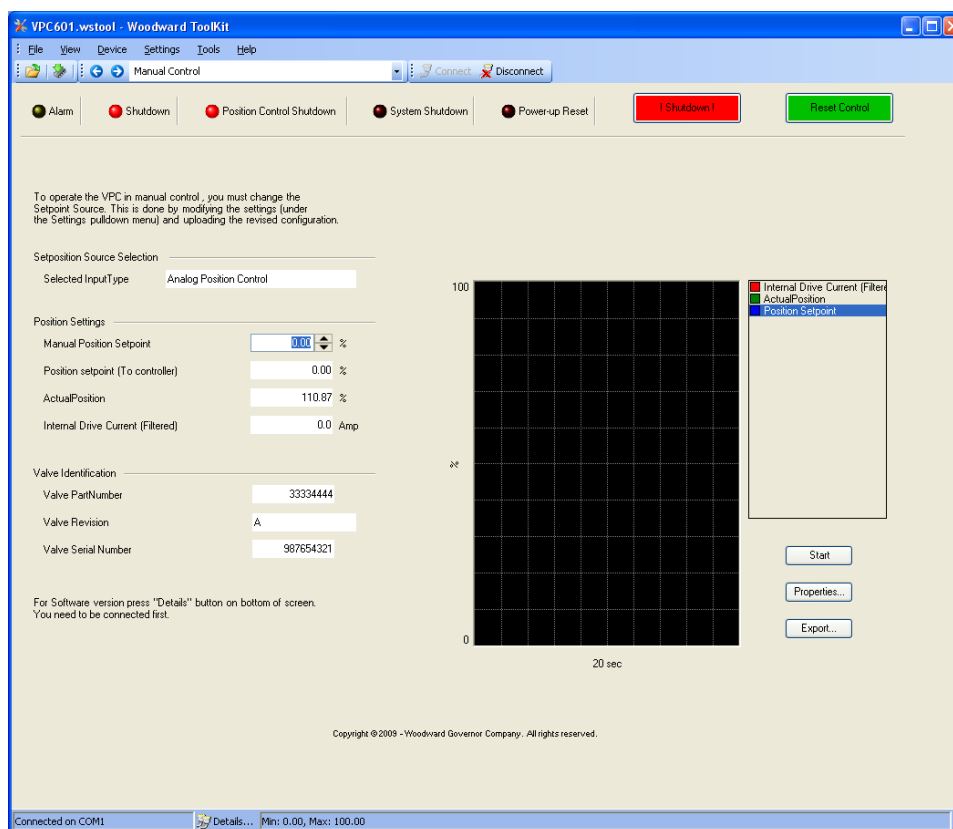

Figure 4-9. Manual Control Screen
**Manual Control** - Displays manual valve stroking mode (Figure 4-9).
The Manual Control screen is used during initial commissioning or when troubleshooting to confirm the operation of the GS16. This screen can also used to monitor the ability of the system to respond to a change in position setpoint, valve position, motor current level and valve identification (Figure 4-9).